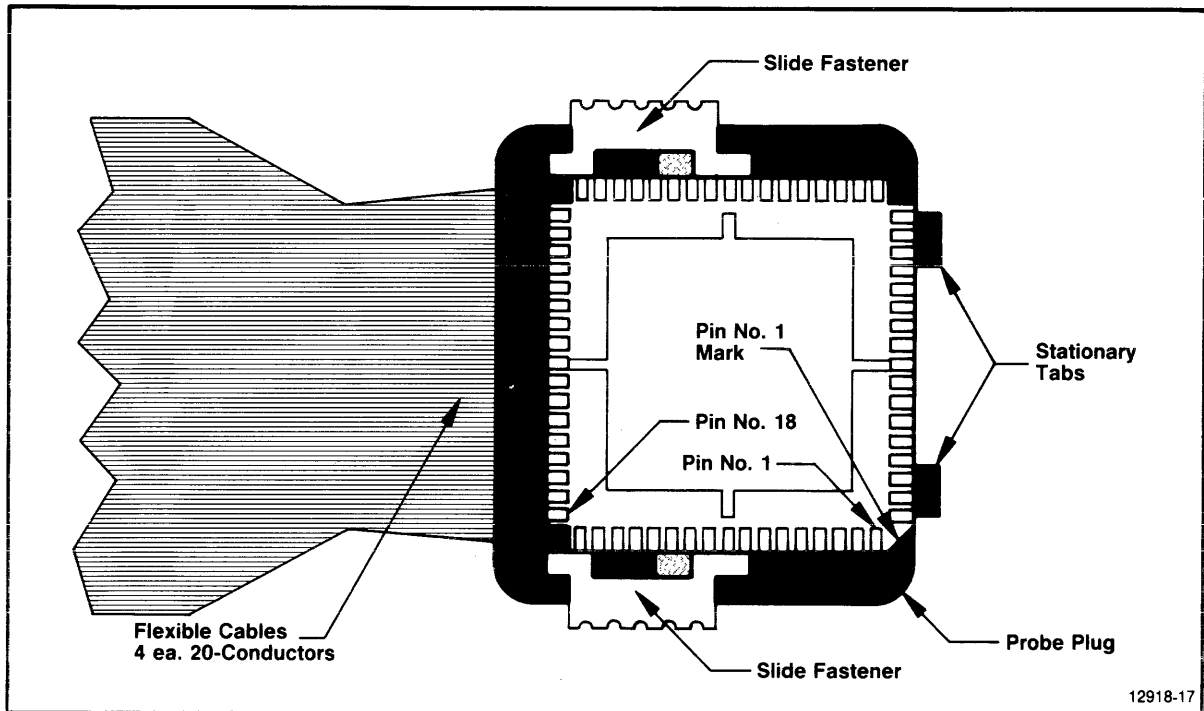

Fig. 6-8. Pin identification and proper plug insertion.
The 68-pin JEDEC Type A probe plug at the end of the four 1-foot flexible cables fits into a 3M Textool 68-pin Chip Carrier Socket in the prototype hardware. Pin 1 on the plug must be mated with the corresponding pin 1 in the socket. A mark is located near pin 1 on both the plug and the socket to aid in pin identification. Refer to Fig. 6-8.
If the prototype control probe plug is incorrectly inserted in the prototype socket, damage to the prototype control probe or to the prototype may result. Refer to Figure 6-8 and the following procedure to ensure proper plug insertion.
Three of the probe plug's corners contain square notches that are used as indexes to ensure correct plug alignment. The fourth corner (Pin No. 1 Mark) is cut on a 45 degree bias. (Refer to Fig. 6-8.) The 3M Textool socket has three guide boss pins that mate with the square notches and a spring lever that mates with the corner marked as Pin No. 1.
2. Move the wire bail on the socket to its open position. Ensure that the slide fasteners on the probe plug are in their retracted positions. Fig. 6-8 shows the slide fasteners in their retracted positions.